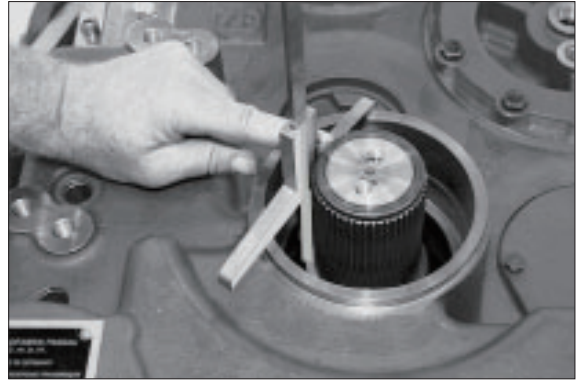

Figure 280
**Adjust the axial play of the output bearing = 0.3~0.5 mm (figure 280~282)**
- (4) Determine Dimension I, from plane face/housing to end face/output shaft.